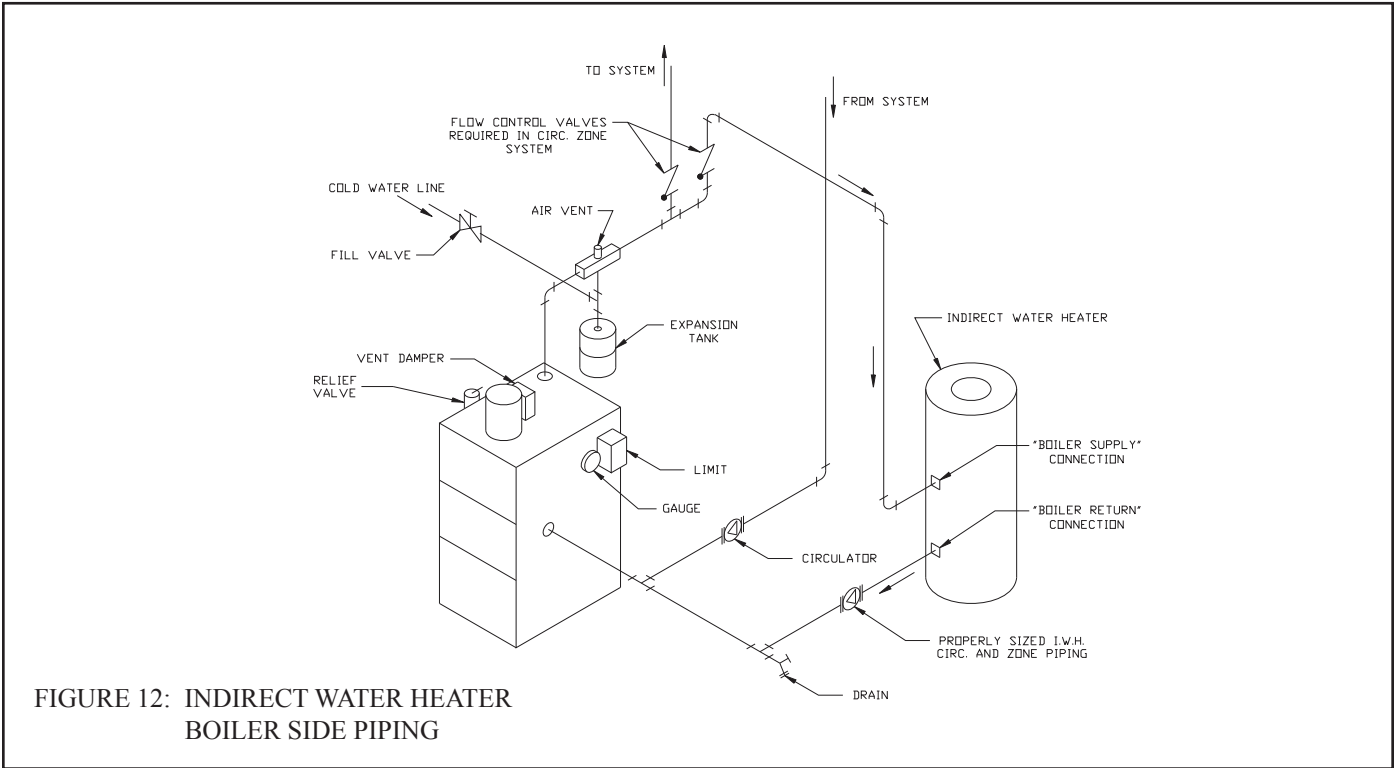

FIGURE 12: INDIRECT WATER HEATER BOILER SIDE PIPING
- 1) Indirect Water Heaters - Figure 12 shows typical indirect water heater piping. Boiler piping is the same as for any two-zone system. Figure 12 shows circulator zoning, which is usually preferred for indirect water heaters. Size the circulator and indirect water heater piping to obtain the boiler water flow through the indirect water heater called for by the indirect water heater manufacturer.